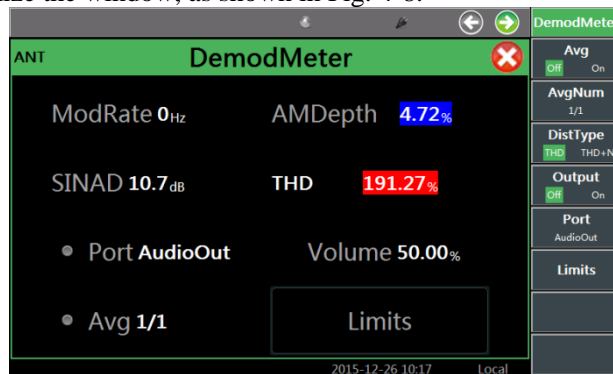

Fig. 4-8 Display Window of Amplitude Modulation Depth Measurement
- Window opening: open the demodulation meter window by pressing the [Transmitter] hard key or pressing the [Measurement] hard key and setting the instrument menu, and select the demodulation type “AM” in the receiver setting window that is opened at the same time. Select the demodulation meter and press the [Full Screen] hard key in the lower part of the screen to maximize the window, as shown in Fig. 4-8.
- Menu calling: click the touch screen, select the demodulation meter as the current active window, and the corresponding menu will be displayed in the right side of the window, as shown in Fig. 4-8.